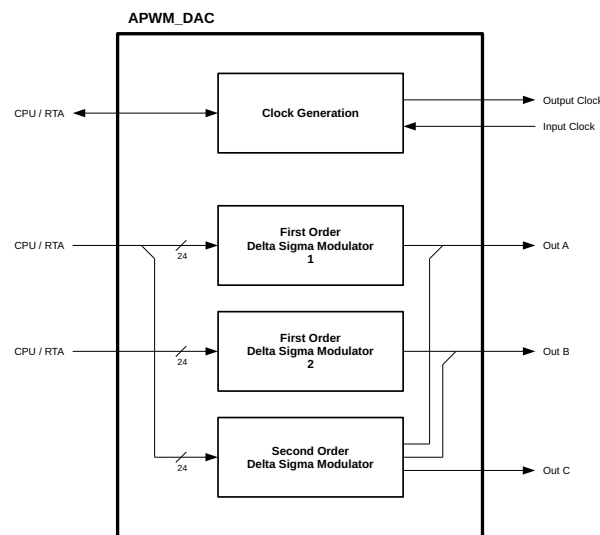

Figure 7. Functional diagram of APWM_DAC
The APWMDAC block provides a digitally modulated output signal, to be low-pass (LP) filtered on PCB. It gives an analog precision signal after the LP-filter that has higher resolution than the 12-bit current-output DAC presented in sections 15 and data sheet section 2.7 [DS]. The maximum bandwidth will be lower, e.g. in the range 0.1 to 100 kHz, depending on priority of bandwidth, analog ripple, filter complexity, etc, in the design of the PCB LP-filter. The modulator can be configured as a first or second order modulator, see figure 7, and requires a second or third order LP-filter, respectively.